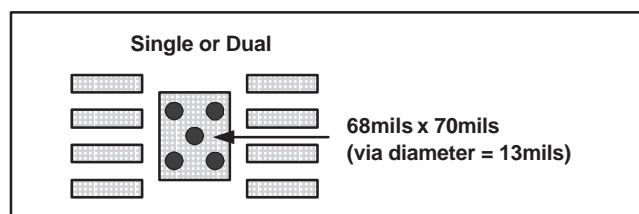

Figure 4. PowerPAD PCB Etch and Via Pattern.
2. Prepare the PCB with a top-side etch pattern, as shown in Figure 4. There should be etch for the leads as well as etch for the thermal pad.